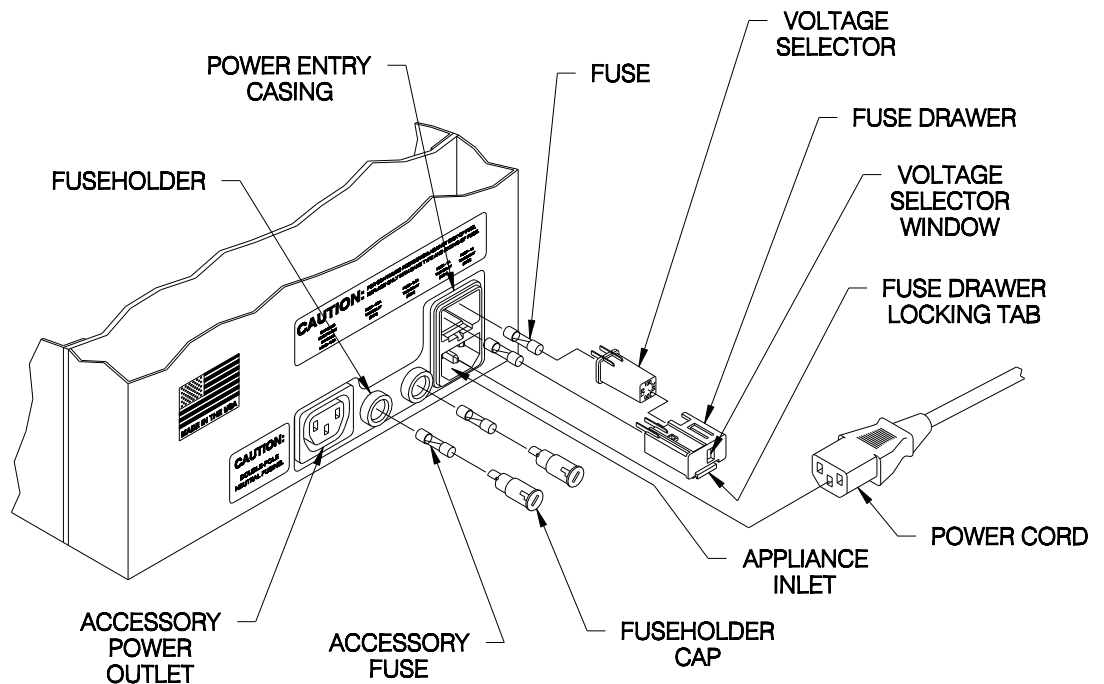

Figure 3.1 – FD 280 Power Connection
Read the current voltage setting through the VOLTAGE SELECTOR WINDOW on the non-operator side of the FD 280. (Refer to **Figure 3.1.**) Use the following instructions to change the voltage setting:
The FUSE DRAWER located on the non-operator side contains two LINE FUSES. (Refer to **Figure 3.1.**) The neutral and hot lines of power are fused. Both LINE FUSES must be intact for the FD 280 to operate properly.
Two FUSEHOLDERS are located on the non-operator side between the APPLIANCE INLET and the ACCESSORY POWER OUTLET. (Refer to **Figure 3.1.**) The FUSEHOLDERS hold two ACCESSORY FUSES which protect the ACCESSORY POWER OUTLET. As with the LINE FUSES mentioned previously, both the neutral and hot lines are fused. Both ACCESSORY FUSES must be intact for the FD 280 to properly supply power to in-line equipment.
The ACCESSORY POWER OUTLET is located next to the FUSEHOLDER on the non-operator side. (Refer to **Figure 3.1.**) This outlet supplies power to equipment running in-line with the FD 280.
1. Plug the POWER CORD into the APPLIANCE INLET on the non-operator side. (Refer to **Figure 3.1.**)